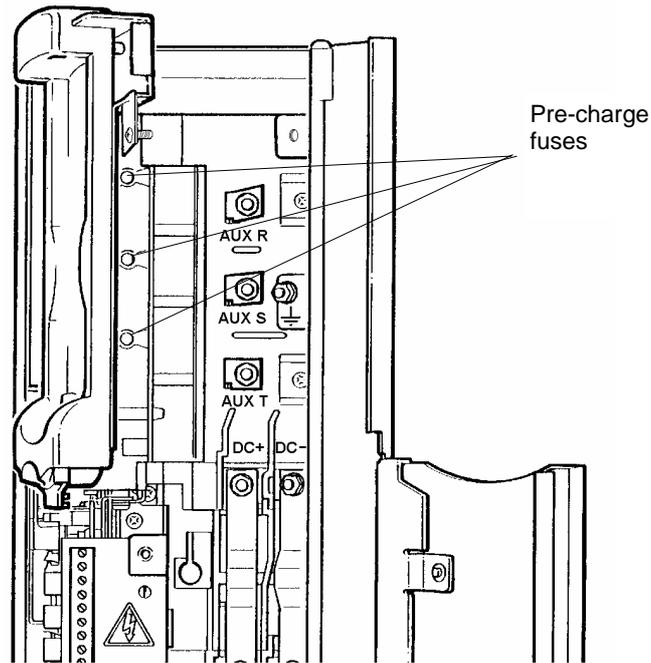

Figure 8-1 Frame size 3 and 4 pre-charge fuse access
(See Figure 8-1, size 3 shown)
2. Locate the three pre-charge fuses mounted on the printed circuit board (pcb), exposed when the cover plate is removed. The pcb is similar to that shown for frame size 3 in Figure 8-1.
5. On frame size 6 converters, re-fit the cover plate to the converter chassis and secure with the two M5 screws (Z).